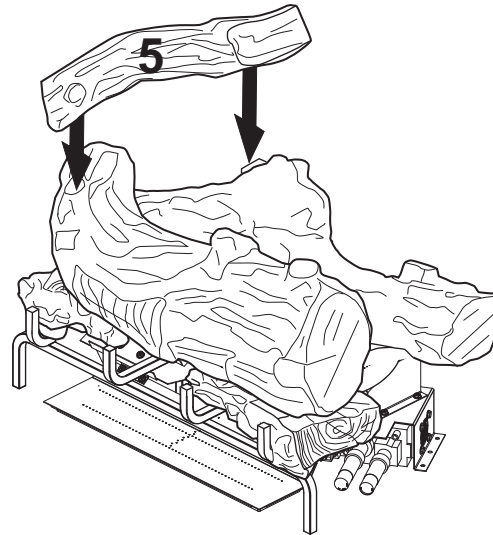

Figure 25 - Installing Log #5
5. Place top left log (#5) onto rear log (#1) and front log (#3). Match round peg on bottom of top left log (#5) with round hole in front log (#3) and square hole in log #5 with square peg on log #1 (see **Figure 25**).